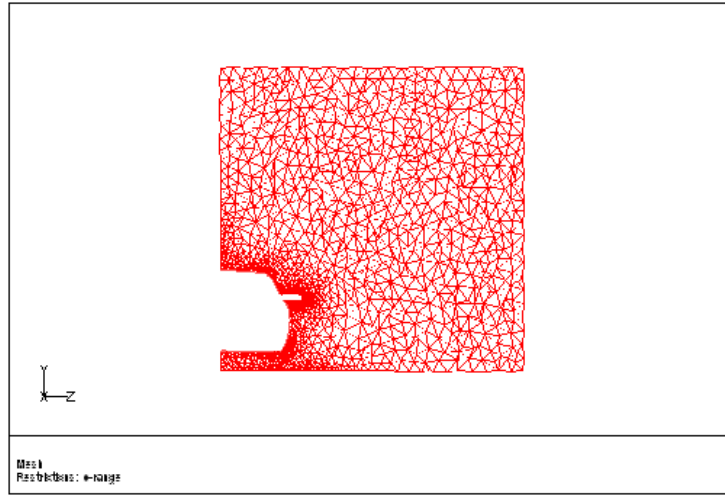

Figure 2.6: Slide of Cells at  $X = -0.37$
- Display the mesh on a slide through the mirror and the car ( $x = -0.37$ ). See Figure 2.6.